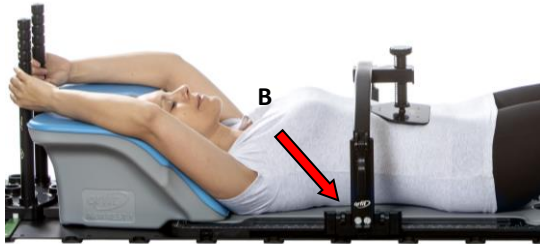

Figure 4
- Position the arch on the baseplate so the screw will touch the pressure plate once you screw it down. Attach the arch to the base plate by opening the clamps (B) on both sides. The arch indexes onto the round holes on top of the base plate and clamps underneath the thin edge. For repositioning purposes write down the location of the arch. The different locations are numbered on the base plate E1 to E26. (Figure 4)